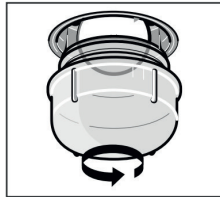

Figure 5
2. Turn the glass cover counterclockwise.(Figure 5)